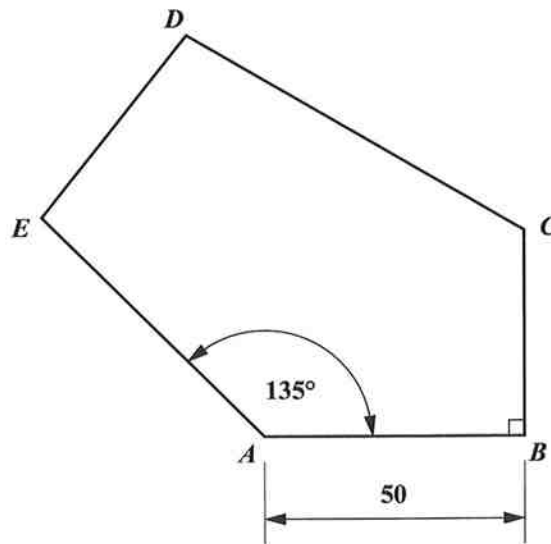

Figure 1
2. **Figure 1** shows an irregular polygon, ABCDE with BC = 40 mm, AE = 60 mm, CD = 75 mm and ED = 45 mm. Construct